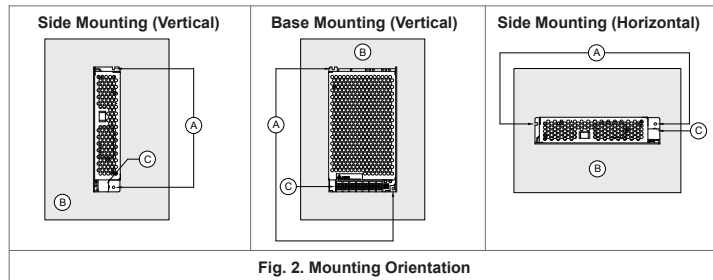

Fig. 2. Mounting Orientation
Refer to Fig. 2.:
- For safety reasons, please ensure the mounted device is kept at $\geq 7\text{mm}$ safety distance at the top and left side from other components and equipments (Refer to Fig. 2).